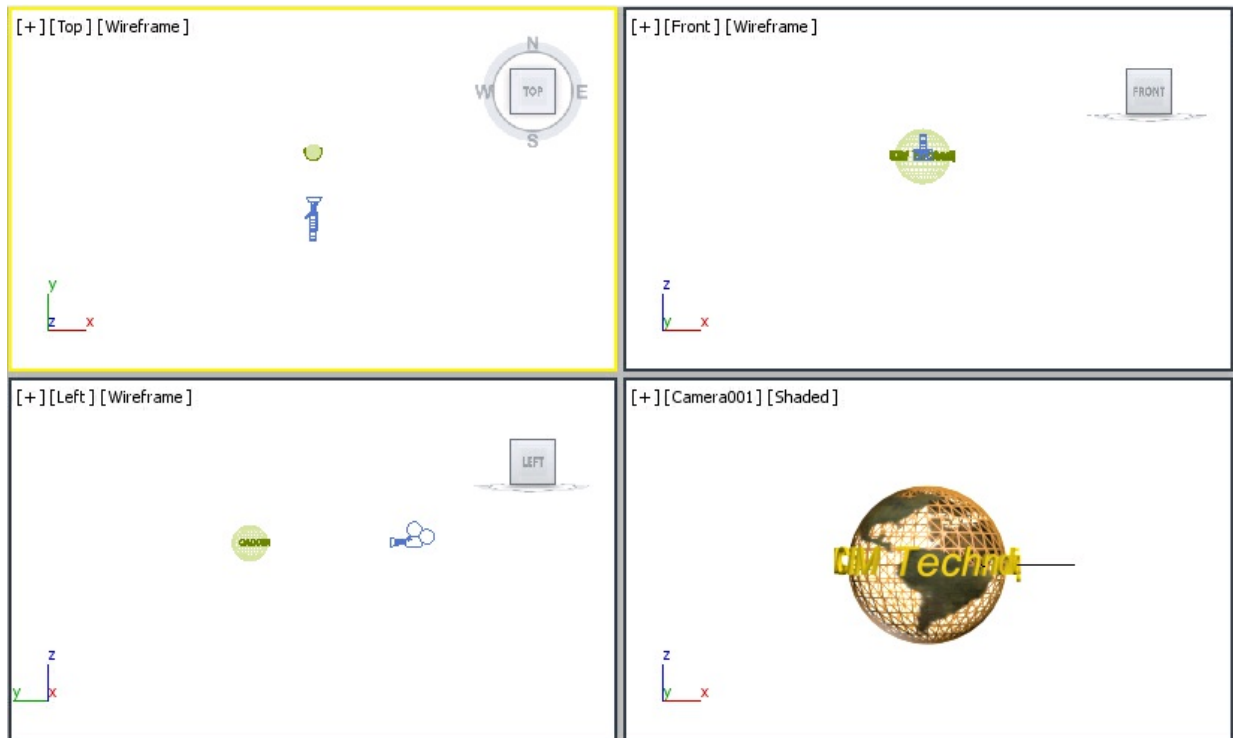

Figure 14-51 The wireframe earth sphere zoomed out
1. Choose the **Zoom** tool and zoom out the Top, Front, and Left viewports to create proper room around *wireframe earth sphere*, refer to Figure 14-51.